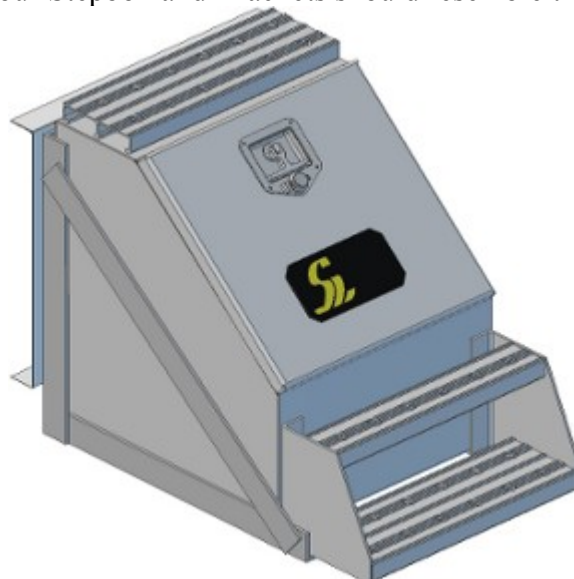

Figure 4 – As-installed illustrative view of Left and Right Stepbox Brackets against the main beam's exterior face
- 9) Using your drill, drill through the bottom face of the Stepbox in each hole location on each Bracket's horizontal angle piece. Install and torque each Bolt, Lock Washer and Nut as in Steps (5) and (6)
- 10) The final installed view of your Stepbox and Brackets should resemble the illustrative view shown in Figure 4: